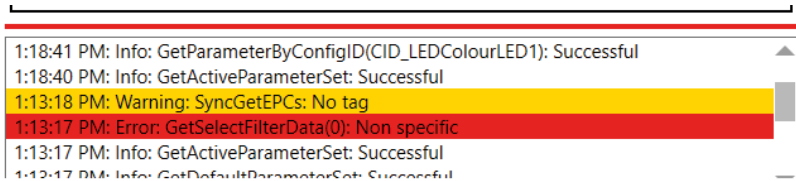

Fig. 24: Status field
► To expand the status field section and see more status messages, click on the boundary line between the sections (red line in Fig. 24) and drag it upwards.